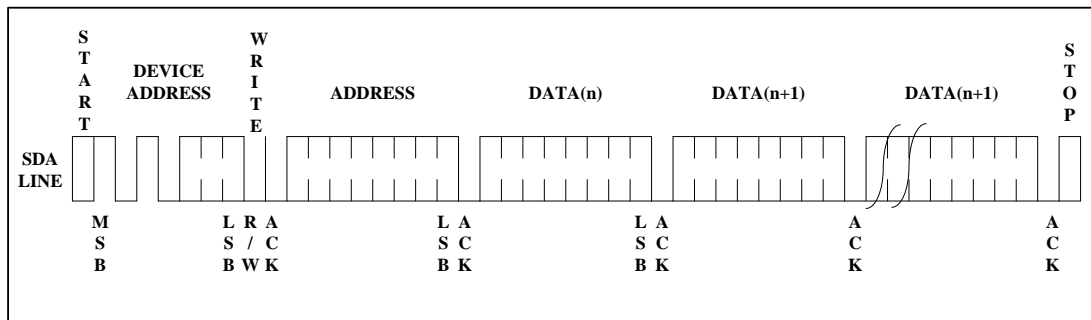

Figure 8. Page Write
**PAGE WRITE:** The 2K EEPROM is capable of an 16-byte page write. A page write is initiated the same as a byte write, but the microcontroller does not send a stop condition after the first data word is clocked in. Instead, after the EEPROM acknowledges receipt of the first data word, the microcontroller can transmit up to seven more data words. The EEPROM will respond with a "0" after each data word received. The microcontroller must terminate the page write sequence with a stop condition (see **Figure 8**).